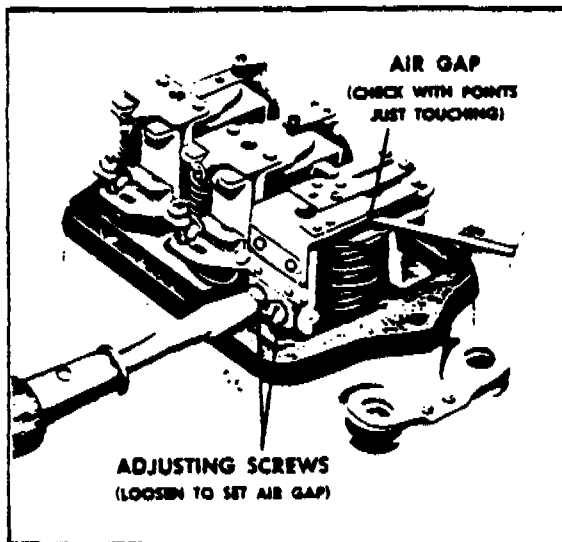

FIGURE 9-9. CUTOUT RELAY
a. Air Gap - Place fingers on armature directly above core and move armature down until points just close and then measure air gap between armature and center of core (Figure 9-9). On multiple contact point relays, make sure that all points close simultaneously. If they do not, bend spring finger so they do. To adjust air gap, loosen two screws at the back of relay and raise or lower the armature as required. Tighten screws after adjustment.